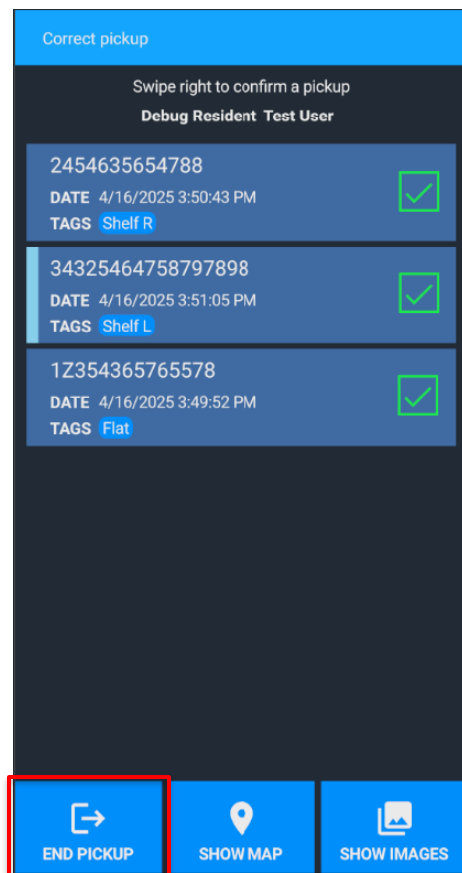

Figure 74: End Pickup
- When all packages have been picked up, tap **End Pickup**. See Figure 74. Place the MobileKiosk in the charger, exit the room and close the door with the packages.